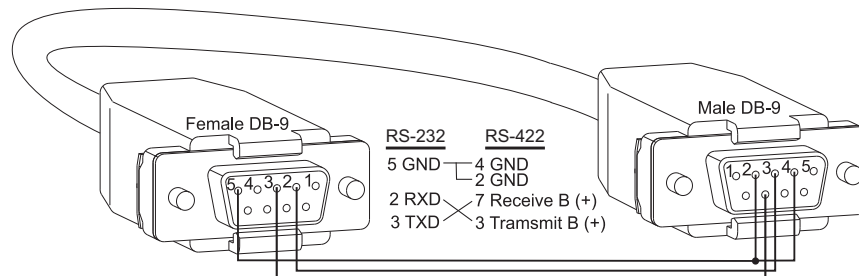

FIG. 97 RS-232 when toggle switch is set to DEV
- When a device is attached, use the cable pinout in FIG. 97 and set the toggle switch on the board to DEV.